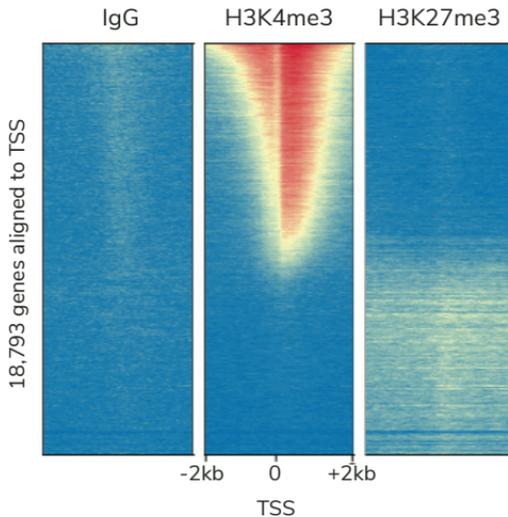

FIGURE 8
- Positive (H3K4me3) and negative (IgG) antibody controls produce the expected distribution and peak structure in the species tested. Results for experimental replicates should be highly reproducible. Representative examples for human K562 cells are shown (**Figures 8 and 9**).